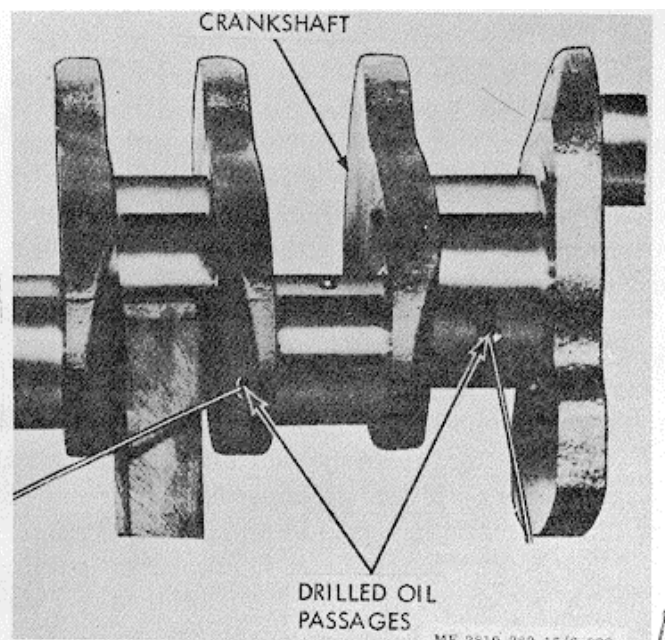

Figure 3-224. Cleaning drilled oil passages.
(1) Remove all pipe plugs.
(2) Clean all drilled oil passages in crankshaft with a rod and rag as if cleaning a rifle barrel. Refer to figure 3-224.
(3) Install and tighten plugs to 5 ft. lbs. torque.
(4) Stake pipe plugs by making a 1/64 inch indentation at outside diameter of threads with center punch.